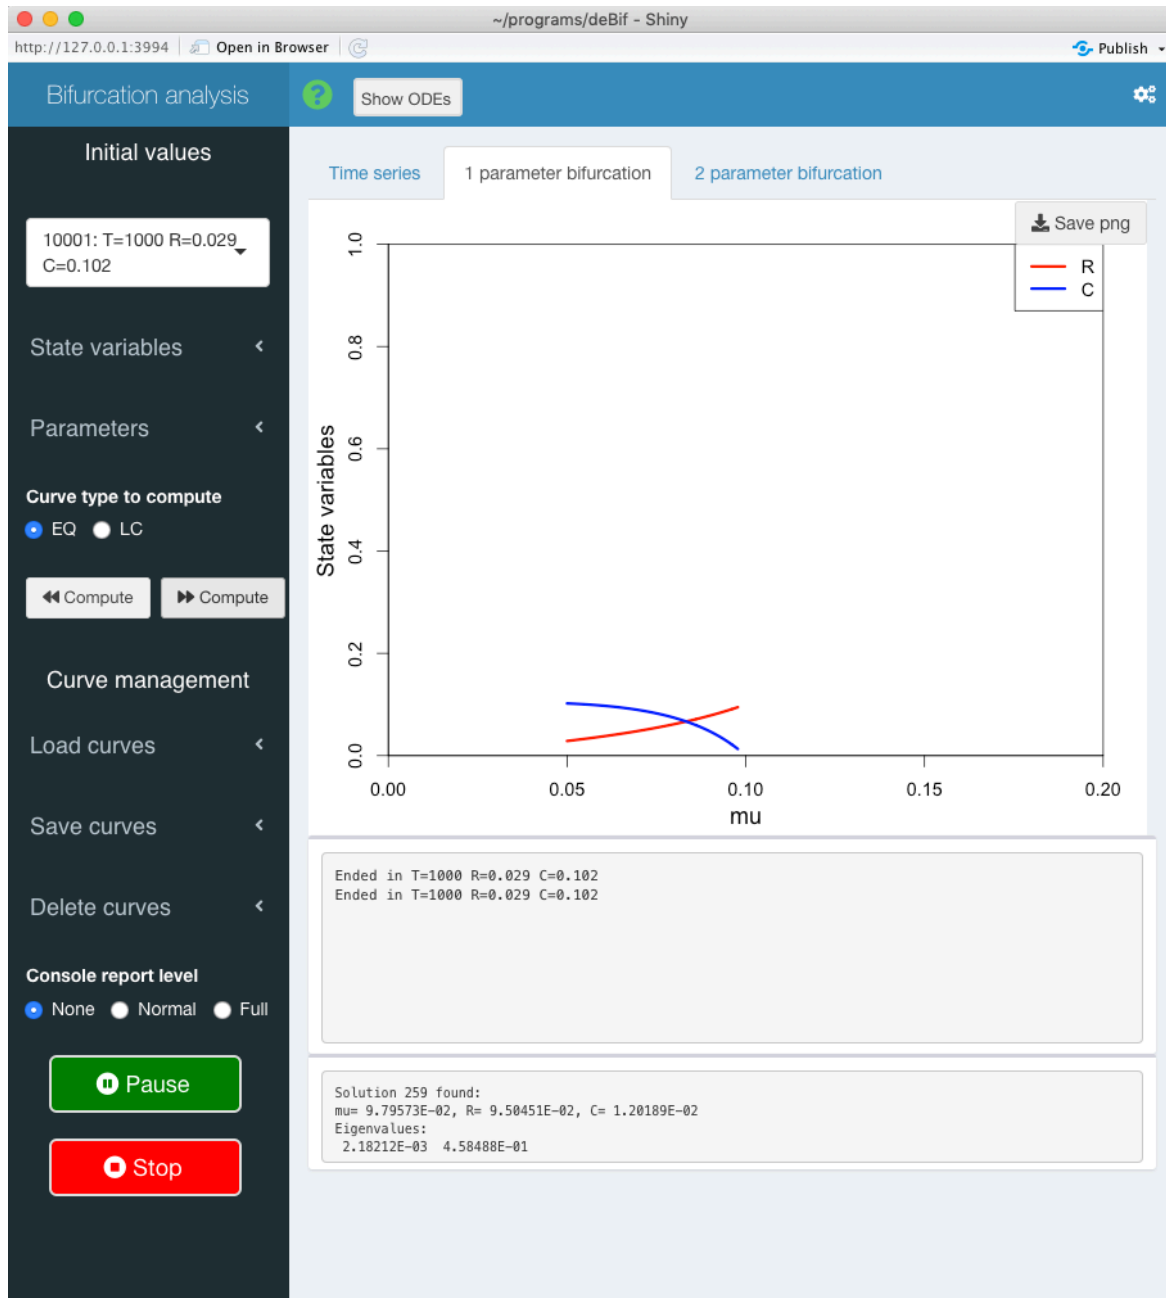

Figure 3.8: The 'bifurcation()' application while it is busy computing an equilibrium curve
higher values of the bifurcation parameter, respectively. During the computation of a curve a Pause and Stop button are displayed in the left sidebar (see Figure 3.8) with which the computation can be temporarily halted or stopped altogether. The progress window at the very bottom of the tab sheet 1 parameter bifurcation reports on the solutions that are found and, importantly, also reports on the eigenvalues that characterize the dynamics in the neighborhood of the equilibrium. Inspection of these eigenvalues allows for checking whether or not the computed steady states are stable or unstable.
Computations of equilibrium curves will halt when the maximum number of solution points along the curve has been reached or when the values of the state variables in the equilibrium point are reaching values outside the range of values currently shown on the x - and y -axis. The default number of solution points along a curve is by default equal to 500, but can be changed (see section 3.2.3). Figure 3.9 shows the completed equilibrium curve, of which the initial part was already shown in Figure 3.8. This complete equilibrium curve has been constructed by 1) first starting the continuation of this curve to lower values of the bifurcation parameter μ ; 2) subsequently continuing this curve to higher values of the bifurcation parameter μ ; and finally, 3) Selecting the final solution point of the latter curve (point number 501) as initial point for the next calculation and computing once again forward to higher values of the bifurcation parameter. As Figure 3.9 shows two bifurcation points are detected during these computations: a Hopf bifurcation point (HP) at a value of the bifurcation parameter around 0.03 and a transcritical bifurcation or branching point (BP) at a value of the bifurcation parameter around 0.10. Figure 3.9 also shows that the curve section to the left of the HP is plotted with a short-dashed line. This indicates that the equilibrium points on that section of the curve are unstable, that is, the eigenvalues characterizing the dynamics in the neighborhood of the equilibrium have a positive real part.